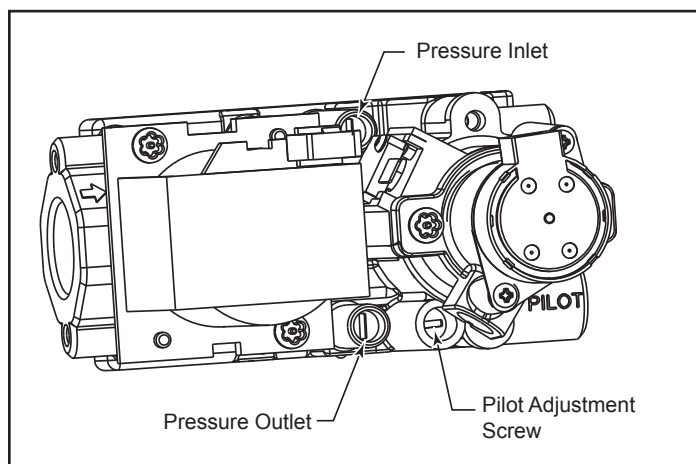

Figure 3.33 - Signature Command Valve
RADVTSC models are equipped with the Signature Command control valve (Figure 3.33) which operates on 6 volts. The A/C module plugs into the stove junction box A/C power supply. Four (4) "AA" batteries are used for back up during power outages.